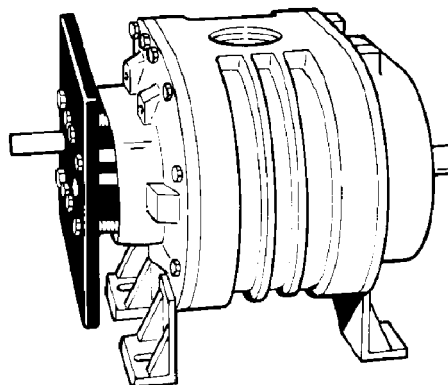

FIGURE 20
9. Attach the puller plate shown on page 11 to the drive headplate using the tapped holes used to secure the drive cover (see FIGURE 20, page 19). Tighten the bolts so that the advance of the bearings stay as uniform as possible. Bearings should be pressed until fully seated in the bore.